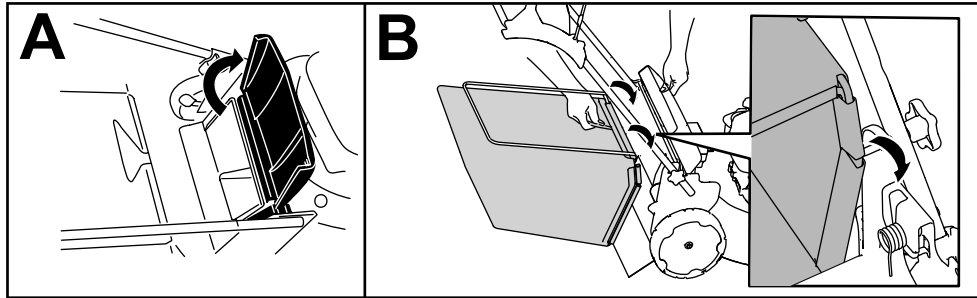

Figure 19
1. Raise and hold up the rear deflector (A of Figure 19).
2. Install the grass bag, ensuring that the pins on the bag rest in the slots on the handle bracket (B of Figure 19).